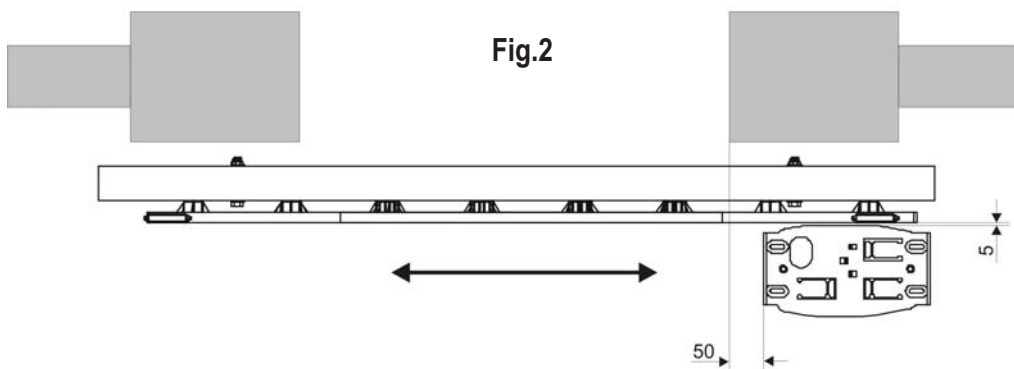

Fig.3
- Place the anchoring plate on the concrete base, respecting the dimensions reported in fig. 2 and fig. 3.
- Pour the concrete in the digging and place the anchoring plate by respecting the dimensions reported in fig. 2 and fig. 3.